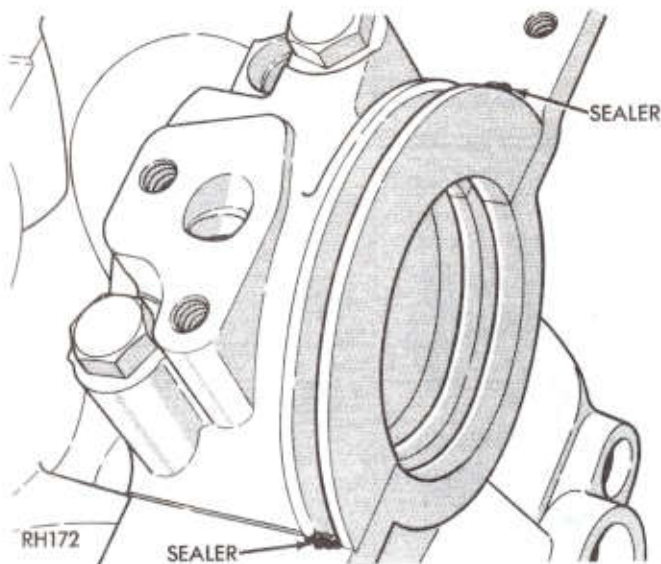

Fig. 51—Oil Pan End Seal at Rear Bearing
(6) Reinstall oil pump. Add sealer at bearing cap to block joint (Fig. 51). To provide oil pan end sealing. Install oil pan.